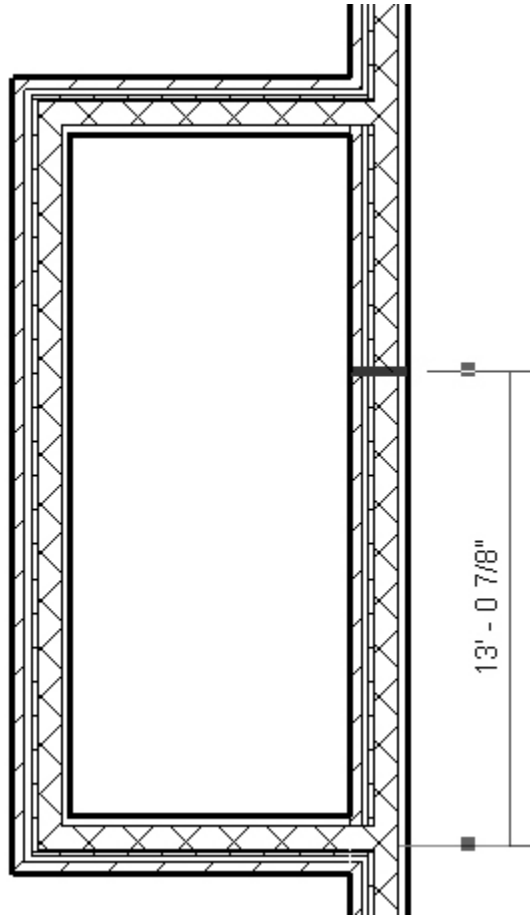

FIGURE 3-3.5 Split tool
18. Pick somewhere in the middle of the wall (Figure 3-3.5).